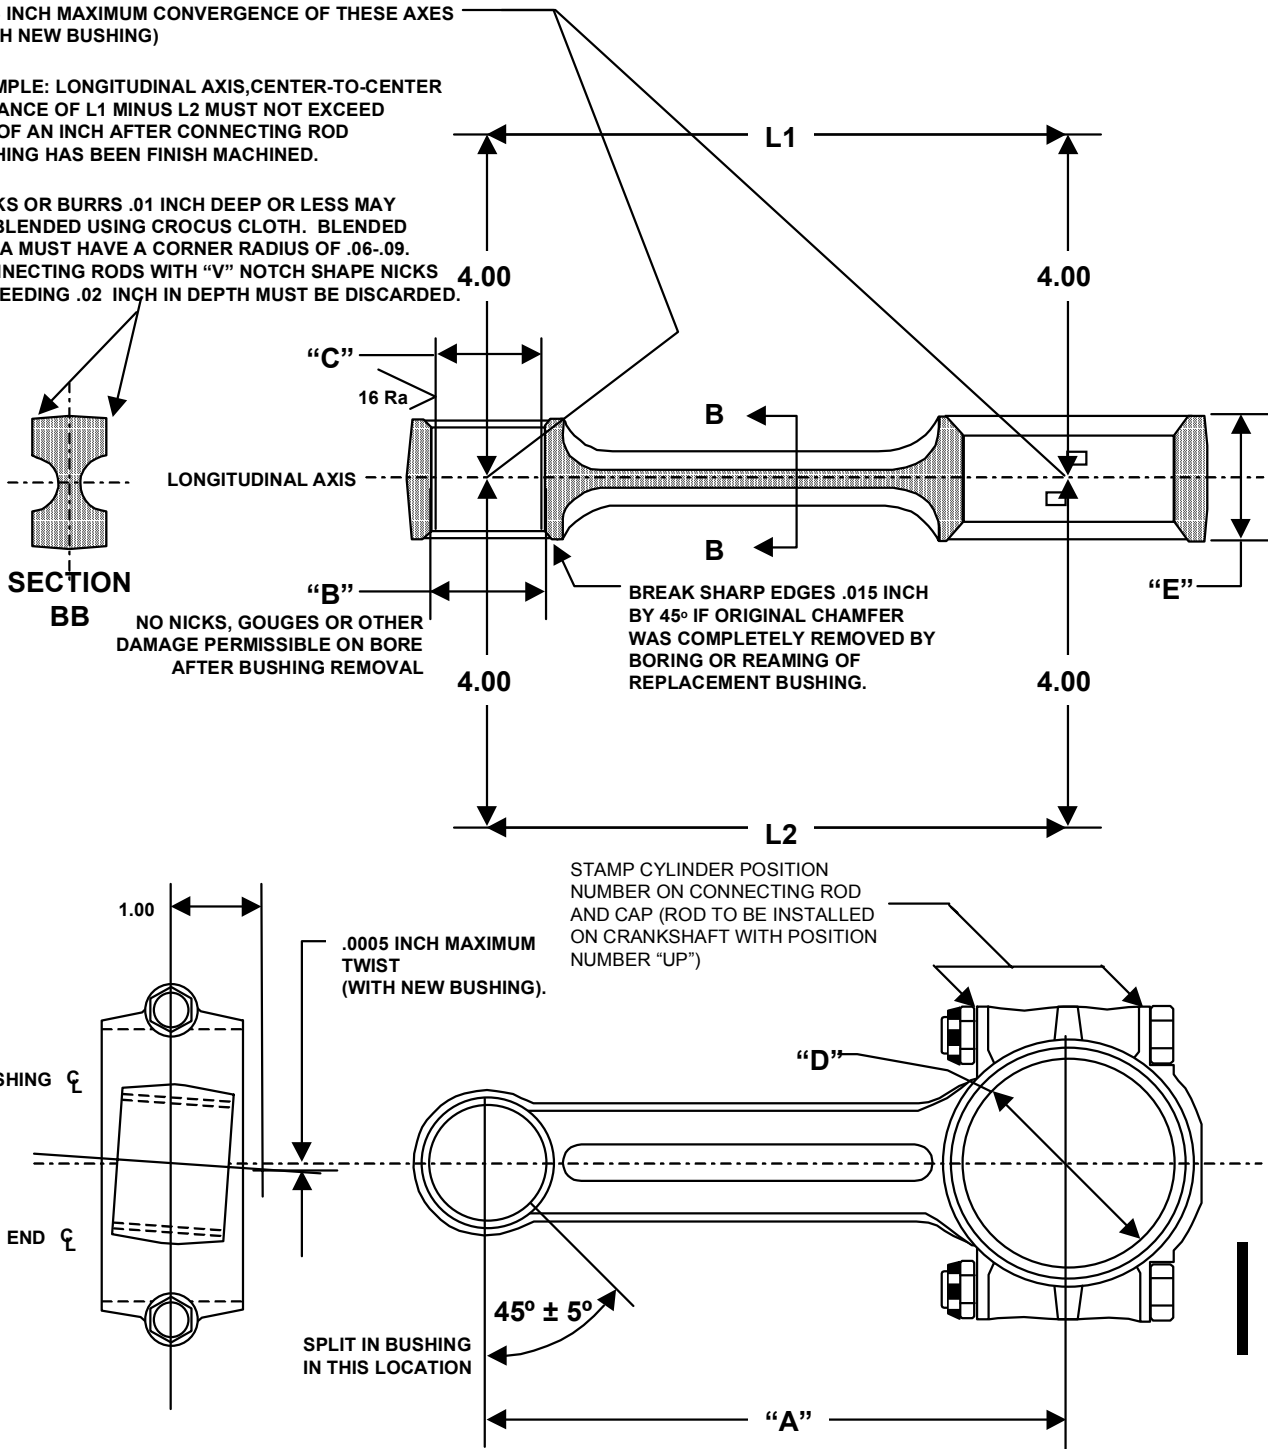

FIGURE 7. CONNECTING ROD AND BUSHING DIMENSIONS
Using precision measuring equipment, such as dial bore gauge or air gauge, verify that the connecting rod meets the dimensional specifications provided in Table 5. Reference Figure 7. Measure "D" diameter 15 to 30 degrees either side of connecting rod split line and 90 from the first measurement. Difference between the two measurements must not exceed .0015. **Connecting rods and caps not meeting these specifications must be scrapped.**
6. Verify the piston pin bushing split is correctly positioned. Reference Figure 7.
Use flat feeler stock to detect clearance between the machined steel blocks and the pin end arbor. Refer to Figure 7 for specified limits. To check connecting rod alignment, rotate the pin end of the connecting rod to a vertical position with the arbor resting against a positive stop. Using a dial indicator mounted on a vertical stand resting on the surface plate, measure the vertical distance of the pin end arbor from the surface plate at points equal distance from the centerline of the connecting rod. Refer to Figure 7 for the specified limits. **Connecting rods exceeding the limits specified in Figure 7 must have the piston pin bushing replaced and reamed or the connecting rod must be scrapped.**